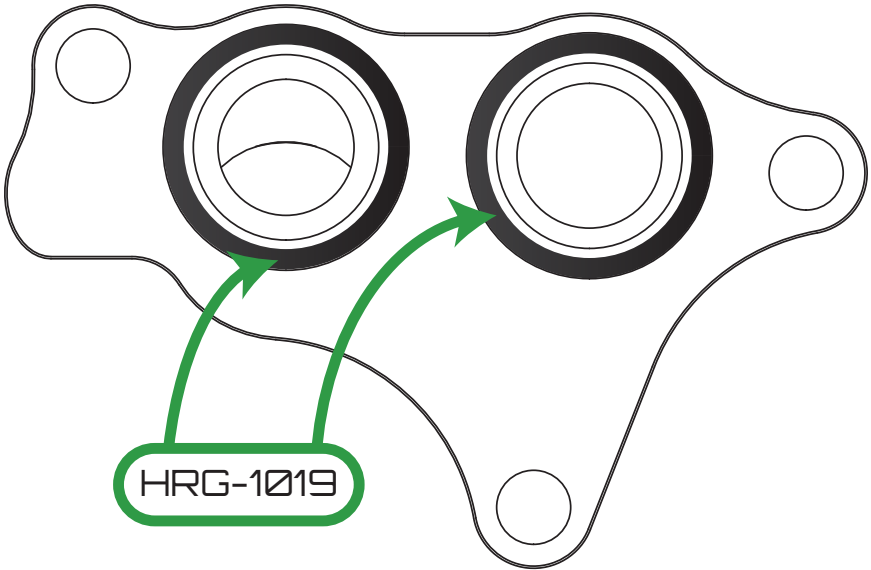

Figure 2 - HRG-1019 O-rings
1. Ensure that two HRG-1019 O-rings are installed into the glands of EFR-103 prior to installation, as shown in Figure 2.